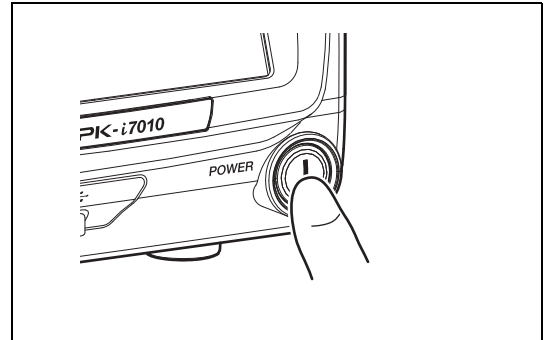

Figure 5.1
1 Press ① on the front of the processor. (Refer to Figure 5.1.)